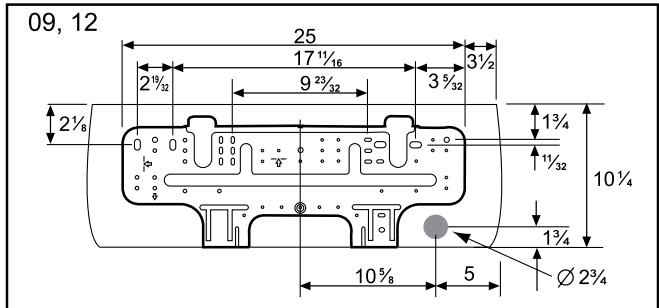

Fig. 4 — Mounting Bracket DFF2A/DFF2H 09, 12
- Mark the four drilling holes on the wall, as they appear in Fig. 4.
- Mark the center of the hole to be drilled according to the refrigerant line routing used and dimensions shown in Fig. 4.